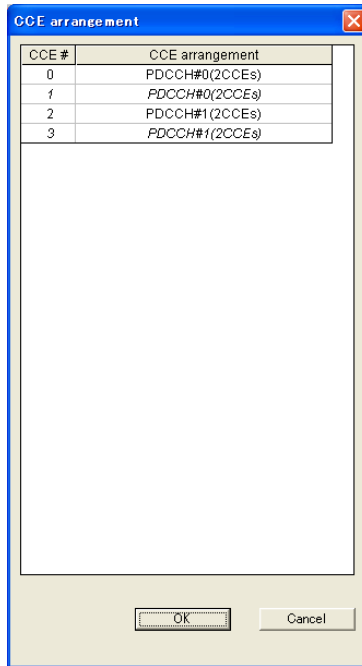

Figure 3.3.1.1-1 CCE arrangement setting
- Double-click the **CCE arrangement** dialog box for Subframe #0 in the tree view, and then specify the settings shown in Figure 3.3.1.1-1.